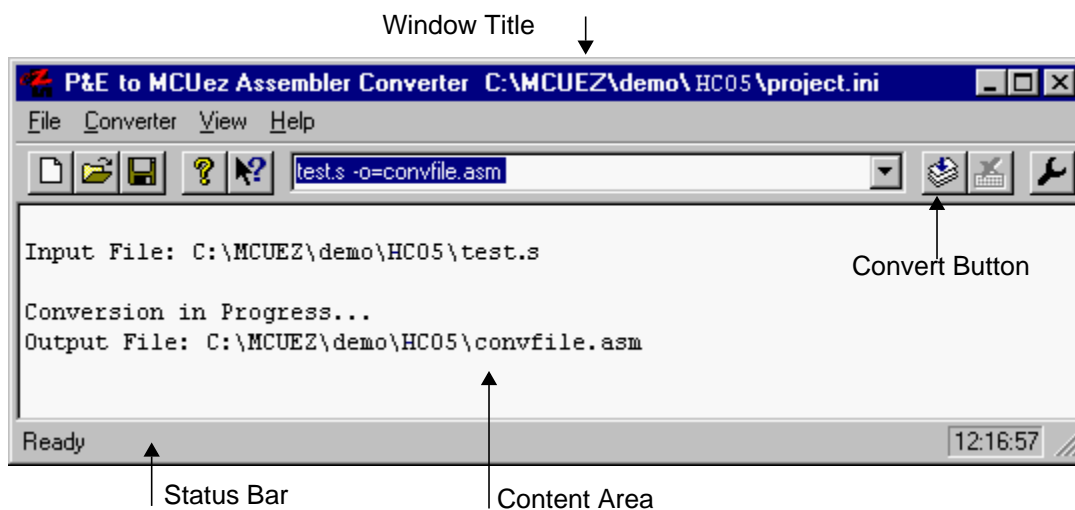

Figure C-2. Converter Window
3. Type in the P&E assembler source filename in the command line. Press **Enter** or the **Convert** button to start the conversion. By default, the output file contains the same name as the input file with a *.asm* extension. The user can specify the `-o` option on the command line to specify a new name for the output file. For example, `test.asm -o=convfile.asm`. Figure C-2 shows an example of the conversion process.